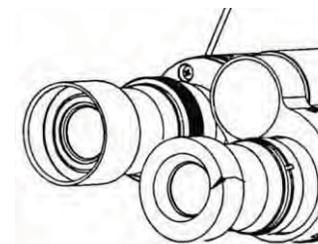

Fig.17
(1) When users with glasses observe, turn down the goggles, so as to prevent the glasses from touching the eyepiece, so as to avoid scratching the glasses and eyepiece.
(2) When users without glasses observe, open the goggles to prevent stray light from interfering with observation. (See Fig.17)